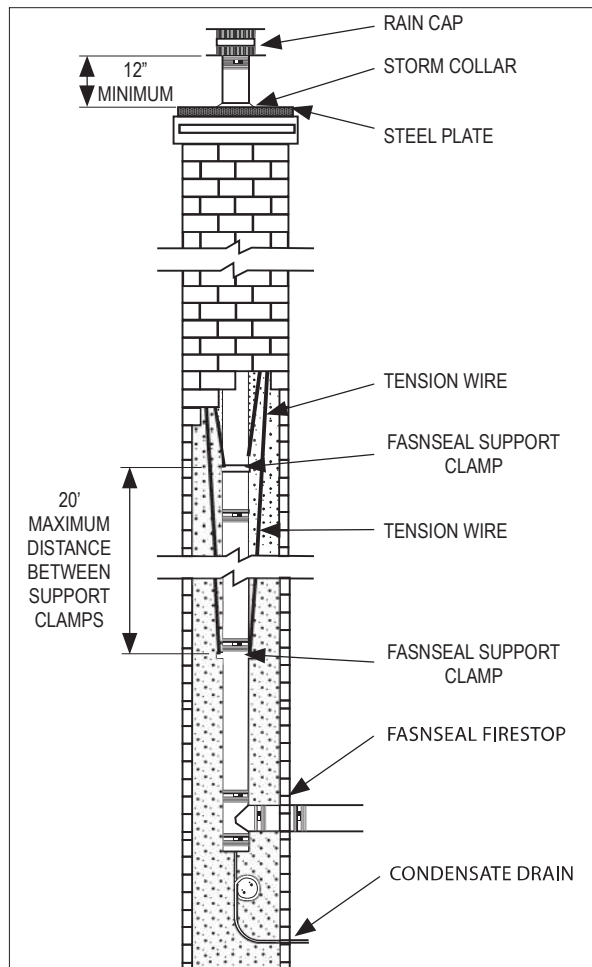
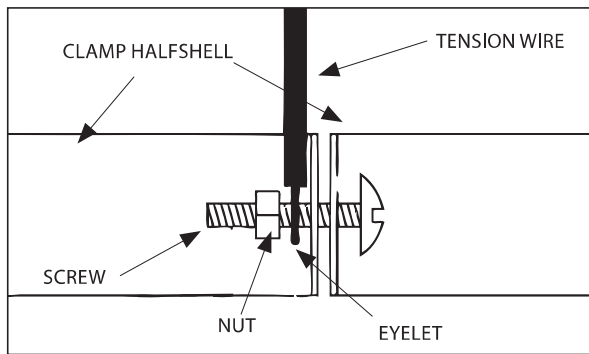

Figure 7
Figure 9
As an alternative method to supporting installations that pass through a masonry chimney, a series of tension wires and FasNSeal support clamps can be used. Refer to *Figure 7* for a typical installation. It is critical to use enough clamps and proper bracing to safely support the weight of
2. Install a FasNSeal support clamp at the base of the vent stack. The first support clamp should be located directly below the upper joint on the bottom most straight vent length (**Figure 7**). Refer to **Figure 9** for the proper method of securing tension wires to the FasNSeal support clamp. Do not fasten the cable between the clamp half-shells. This will prevent the clamp from gripping the vent stack properly